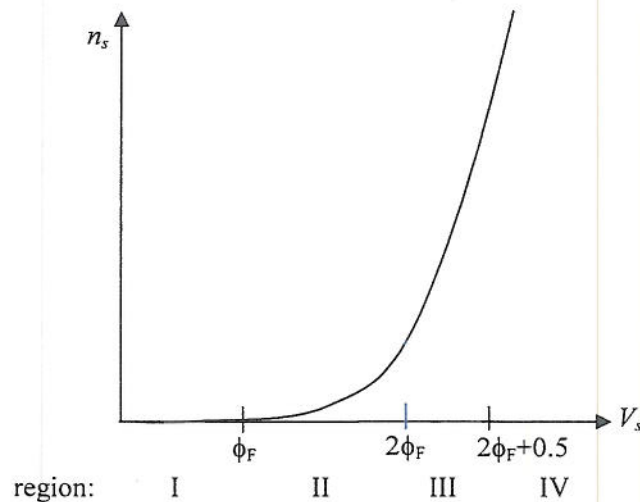

Figure 2.1: The surface carrier density n_s as a function of the surface potential V_s .
- d) The surface carrier density n_s as a function of the surface potential V_s is given in Figure 2.1.